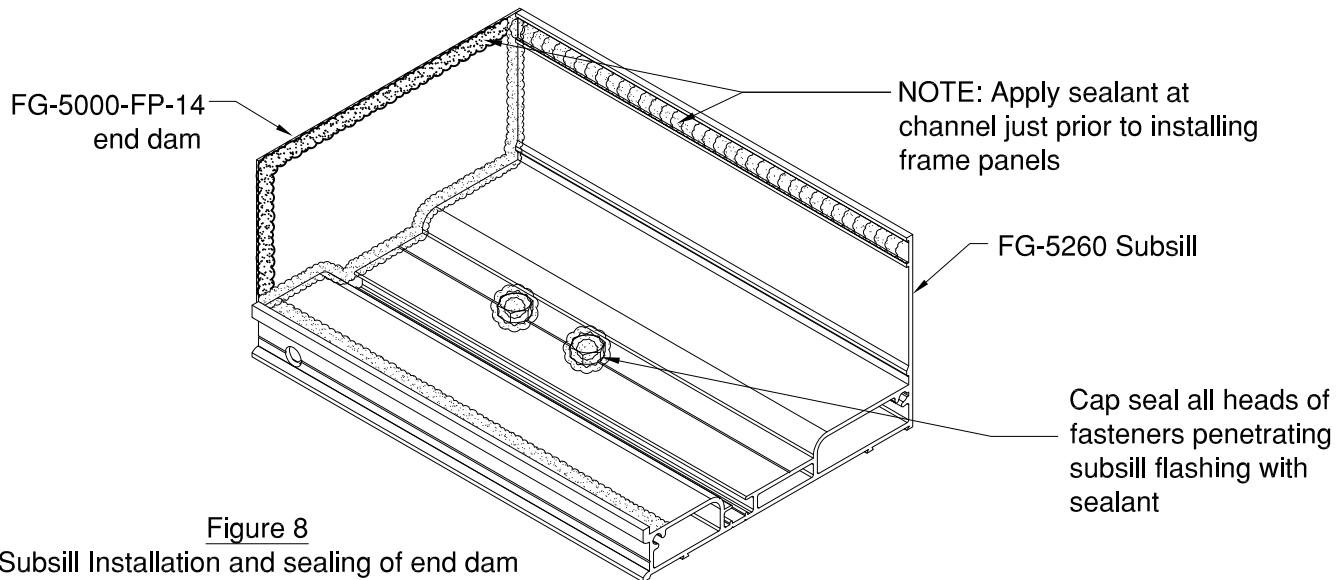

Figure 8
- 2.2.2 Wedge shims tightly between end dams and jamb substrate at each end prior to installing frame panels. These shims prevent the end dams from being dislodged while frame panels are being installed. Completely seal end dams as shown See Figure 8.